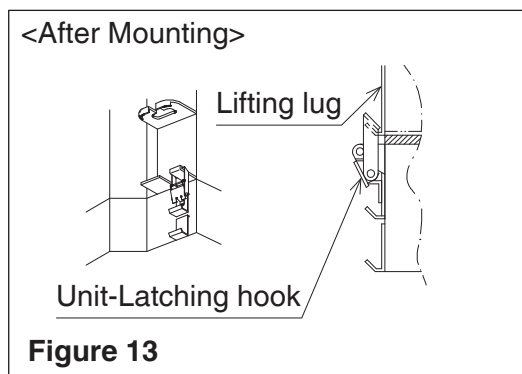

Figure 13
- (3) Place the UV streamer air purifier unit and the indoor unit close together and pull down the latches of the unit-latching hooks to lock. (Refer to **Figure 13**.)